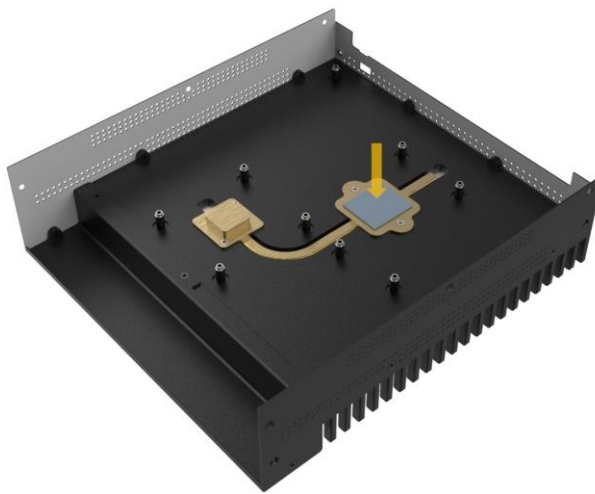

Figure 3-4: CPU Thermal Pad Installation
Step 4: Place a thermal pad on the heat conductive block of CPU (See Figure 3-4).